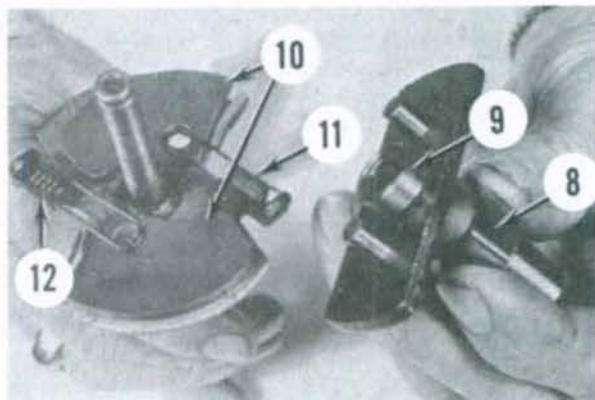

Fig. 57—Lugs on cam assembly (8) should go through springs (11 and 12), weights (10) and slots in plate of the distributor shaft. Spacer is shown at (9).
Assemble parts (8,9,10,11 and 12) as shown in Fig. 57, then install snap ring (7—Fig. 56). The shouldered washer (14) should be above and should enclose flat washer (15). Distributor shaft end play should be 0-0.25 mm (0-0.010 inch). Breaker point gap of 0.43-0.56 mm